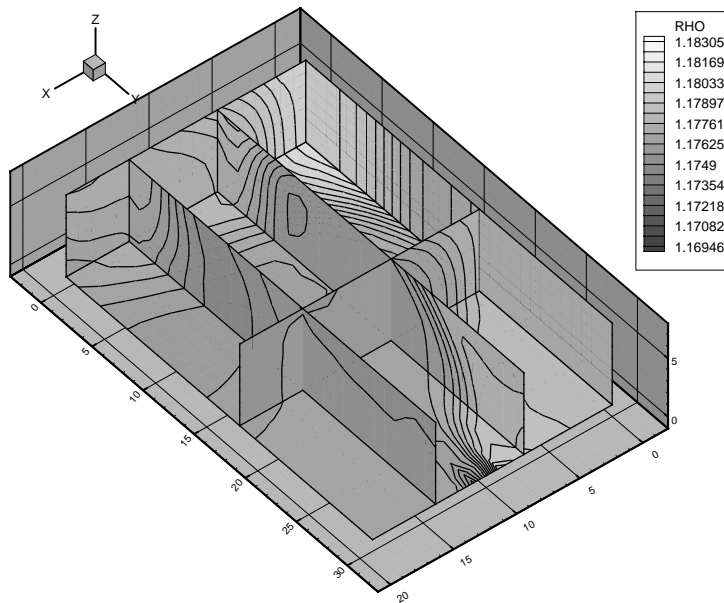

Figure 21-14. A fence plot.
A fence plot is a plot of planes of a 3-D data field. These planes may be IJ-ordered zones, or combinations of I-, J-, and K-planes of an IJK-ordered zone. In particular, the “bottom” plane of the plot is plotted, plus a few planes that are perpendicular to this plane. These perpendicular planes are the “fences.” Typically, flooded contours are plotted on each plane. An example fence plot is shown in Figure 21-14.
6. For each of I, J, and K, set the index range as appropriate. In Figure 21-14, the ranges chosen were as follows:
9. Redraw your plot. You should see a fence plot similar to that in Figure 21-14.